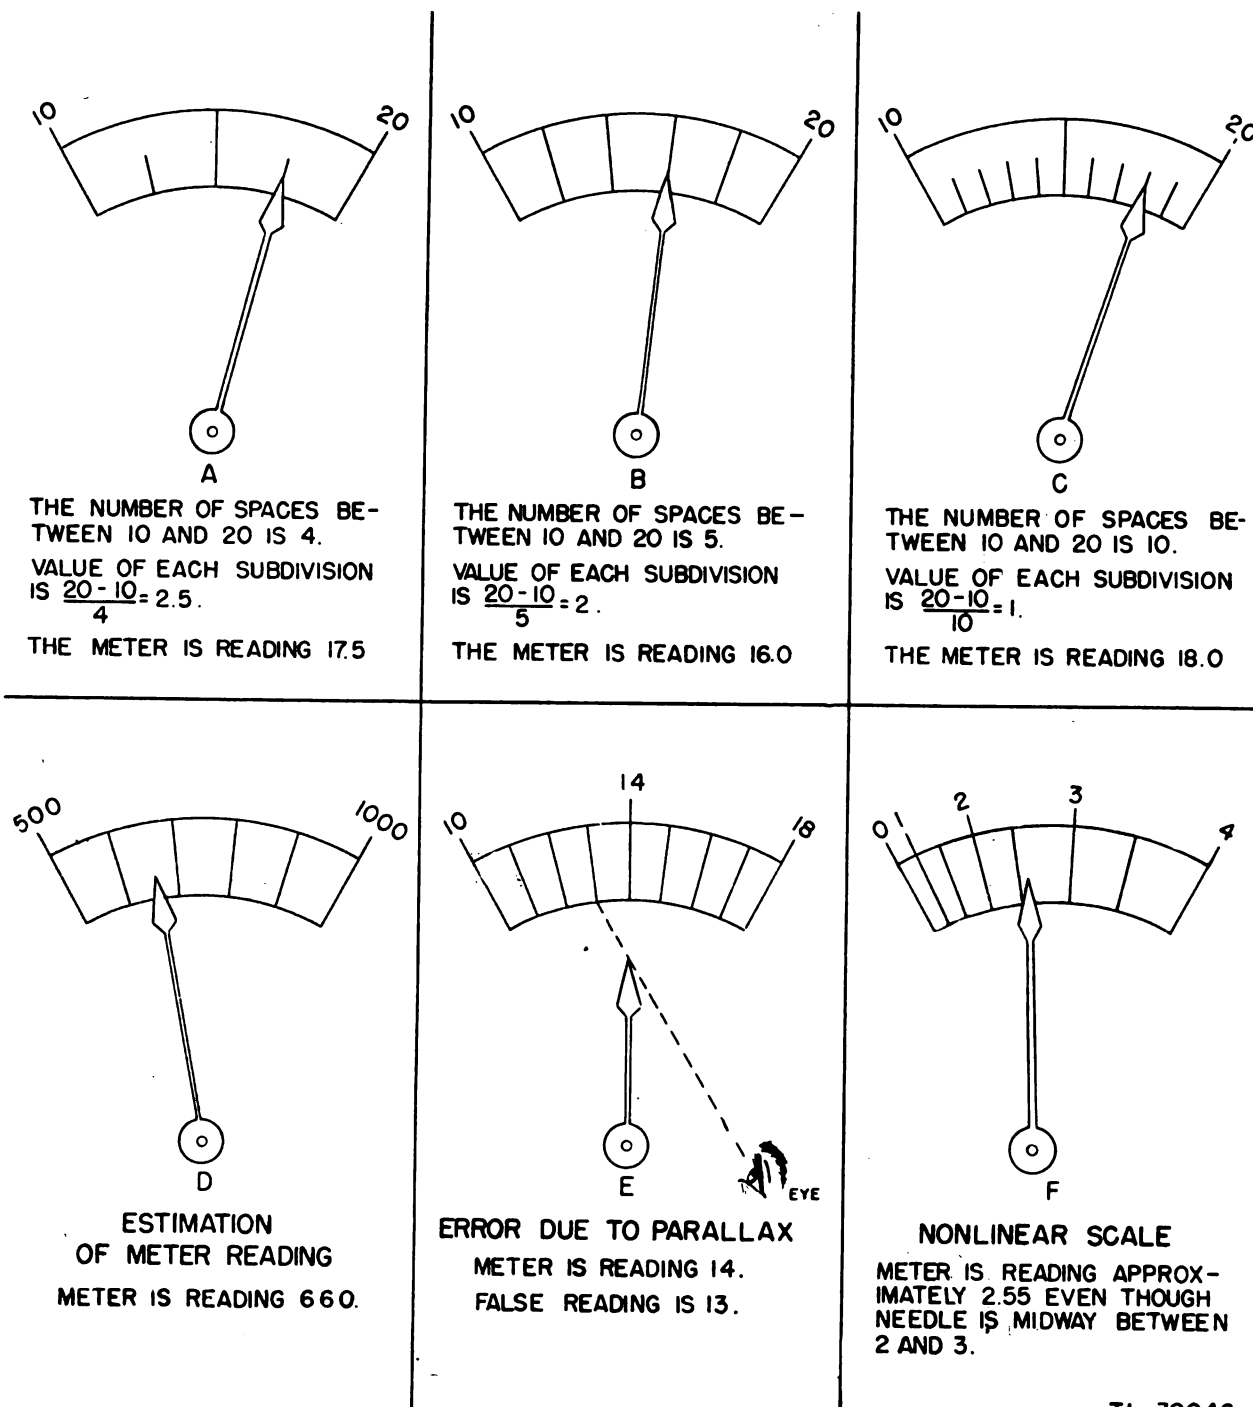

Figure 52. How to read a meter.
b. OBTAINING VALUE OF A SUBDIVISION. Count the divisions of scale space between the two main numbered graduations on each side of the needle. Divide the numerical difference between the two numbers by the number of divisions of scale space. This process gives the value of each subdivision, as illustrated in figure 52.